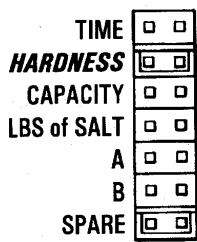

Figure 6
4. Pull the jumper off the **TIME** pins and place it on the pins marked **HARDNESS** (Figure 6). Press the black **TIME SET** BUTTON until the correct hardness is displayed. The hardness range is from 1 to 99 grains per gallon. To change water hardness stated in parts per million (ppm), to grains per gallon (gpg), use this formula: